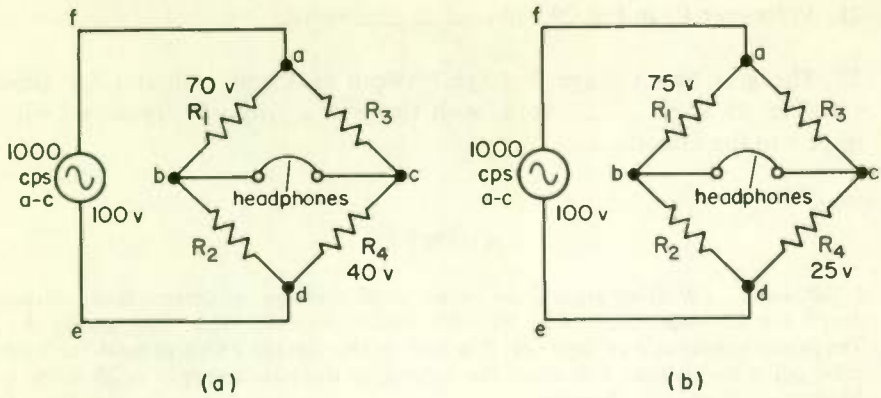

Fig. 27
18. In the bridge circuit of Fig. 27(a) the voltage across the headphones is (a) _____ volts, and in part (b) of the figure the voltage across the headphones is (b) _____ volts.